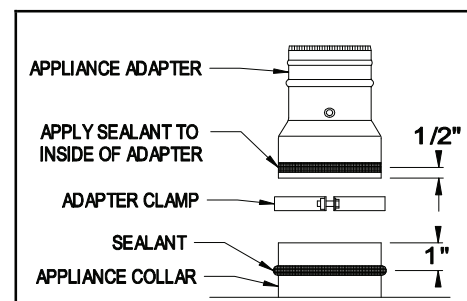

Figure 20
1. Apply a bead of sealant to appliance collar approx. 1" from end of collar (Figure 20).
2. Remove all oil and grease from the inside of the appliance adapter, and apply a bead of sealant to inside of adapter ?" from end (Figure 20).
5. Assemble adapter clamp halves using the supplied 5/16" bolts and square nuts, and install the appliance clamp onto the adapter and tighten securely (Figure 20).